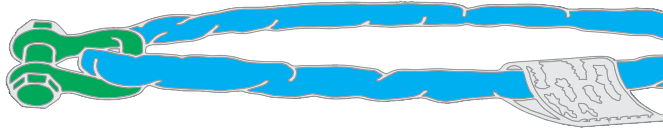

Figure 4-9
**Example:** A size 3 polyester round sling, rated at 8,400 lbs. in a vertical hitch, is connected in a vertical hitch using the rounded bow end of a shackle that is smaller in size to that listed in Table 4-6. The shackle has a stock diameter of only .62 inch, and an inside opening width of 2 inches. However, a force of only 6,000 lbs. is applied, noticeably less than the rated capacity of the sling (See Figure 4-9). Is this use of the selected shackle acceptable?